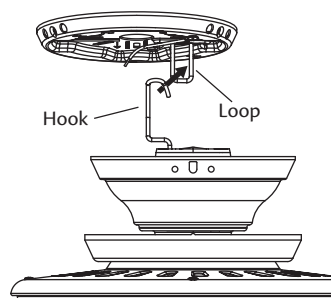

Figure 14 - Hanging the fan
1. Raise the fan and place the hook through the loop on the ceiling plate as shown in Figure 14. Use the note and arrow engraved in the ceiling plate to assist in determining the direction to assemble.